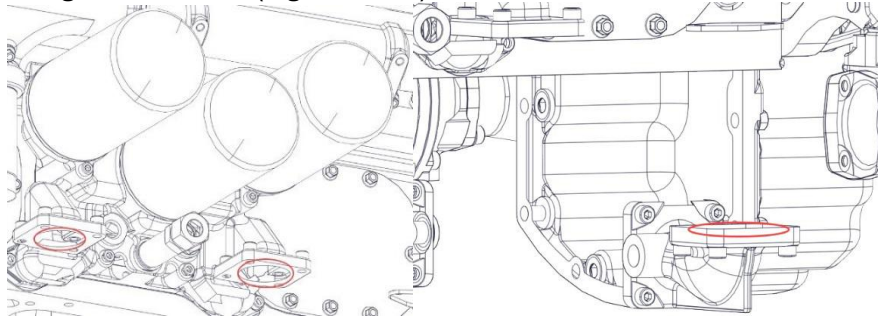

Figure 154-4.
1. Ensure all new O-rings are installed (Figure 154-4).